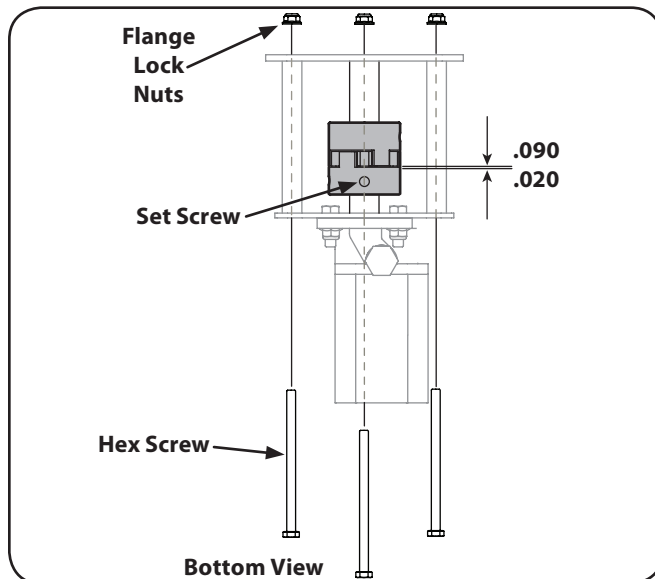

Figure 7-1
2. Remove the three flange lock nuts and hex screws that secure the pump to the coupling shield. Two flange lock nuts and hex screws are at the bottom corners and one is in the top center. See Figure 7-1.
11. Set .020" to .090" of a clearance/gap between the nylon "spider" and the engine coupling half by sliding a feeler gauge or matchbook cover between the nylon "spider" and the engine coupling half and moving the pump coupling half as needed. Secure the pump coupling half with the set screw. See Figure 7-1.